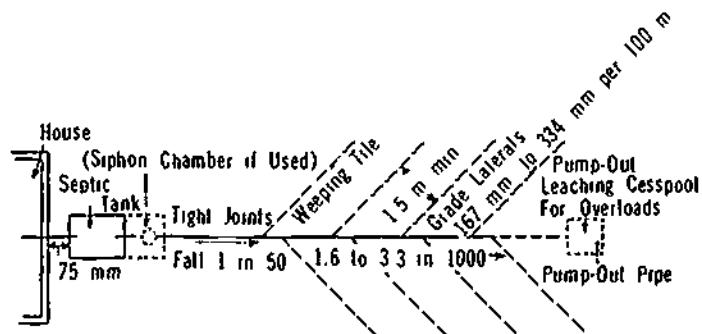

Figure 24-10. Clay Tile Disposal System for Level Ground
c) A disposal field is a system of sub-surface tile with a header or main feed line from the septic tank feeding into laterals. Perhaps the oldest and most common pattern is the "herringbone" seen in Figure 24-10. Note the siphon chamber, since it is not used in all cases; also the leaching cesspool, a